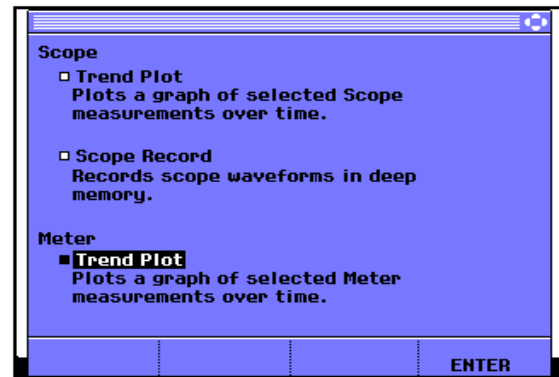

Figure 16. Recorder Main Menu
- 1  Open the RECORDER main menu. (See Figure 16.)